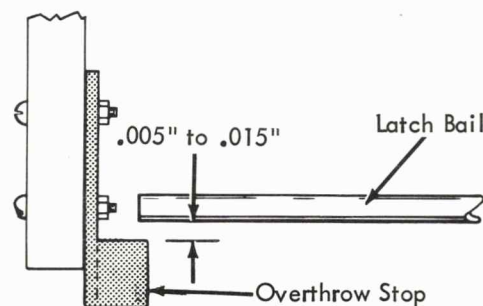

FIGURE 5. Latch Bail Overthrow Stop
7. Latch Bail Stop - The latch bail stop (Fig. 5), located just beneath the bail, prevents the bail from getting beneath the selector latches. Adjust the stop to clear the latch bail by .005" to .015" when the bail is at the high point of the cycle shaft cams.